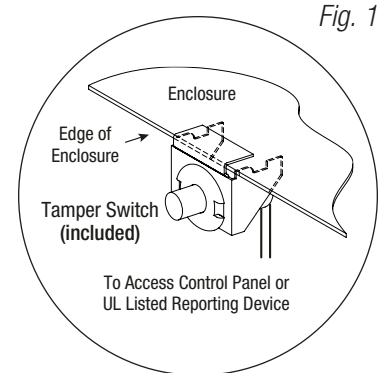

Fig. 1
3. Mount included UL Listed tamper switch (Altronix Model TS112 or equivalent) in desired location, opposite hinge. Slide the tamper switch bracket onto the edge of the enclosure approximately 2" from the right side (*Fig. 1, pg. 2*). Connect tamper switch wiring to the Access Control Panel input or the appropriate UL Listed reporting device. To activate alarm signal open the door of the enclosure.
5. Refer to the XBV Power Supply/Charger Installation Guide for AL1024XB2V and corresponding *Sub-Assembly Installation Guides* for the following models: ACMS12(CB), PDS16(CB) and VR6 for further installation instructions.